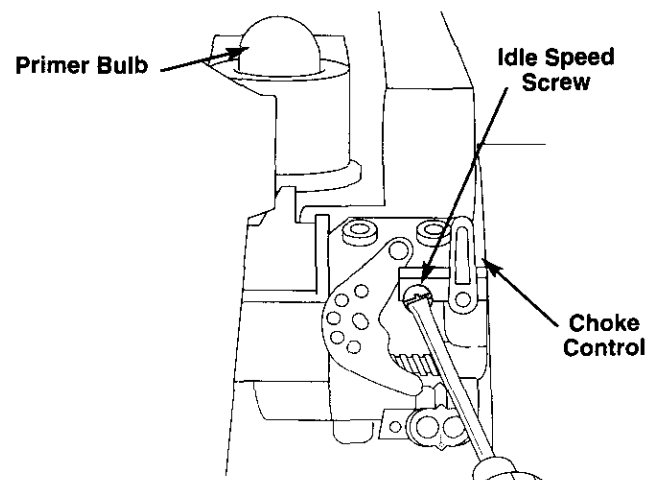

Fig. 23
3. Restart the unit, release the throttle trigger and let the engine idle. If the engine stops, insert a small phillips or flat blade screwdriver into the idle speed screw (Fig. 23). Turn the idle speed screw in, clockwise, 1/8 of a turn at a time (as needed) until the engine idles smoothly.